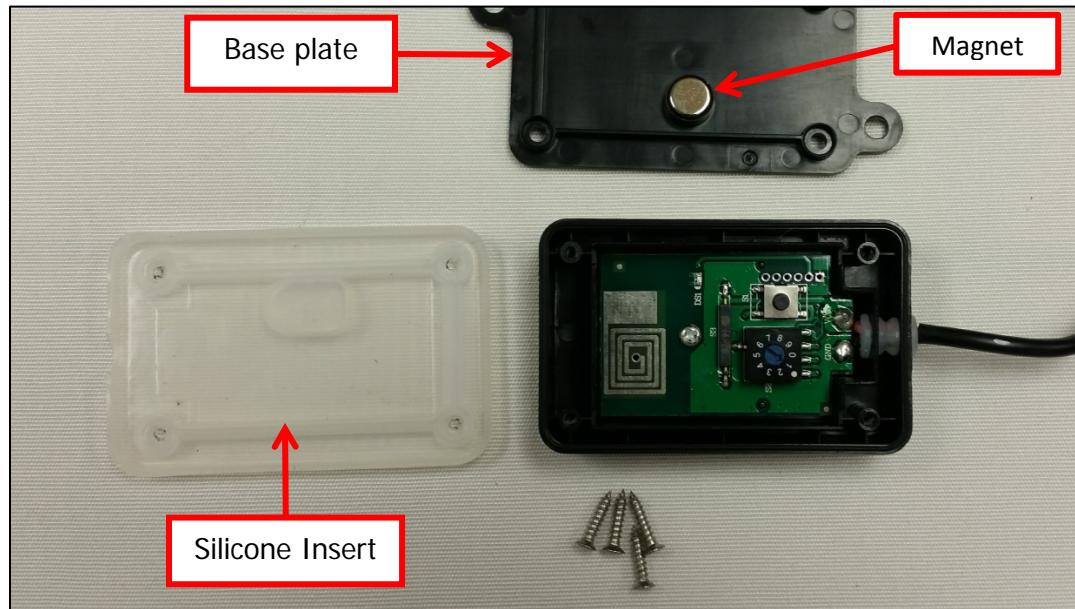

Fig.3
- c. Remove the 4 cross head screws holding the module together. Remove the back plate and silicone insert. See Fig.3.